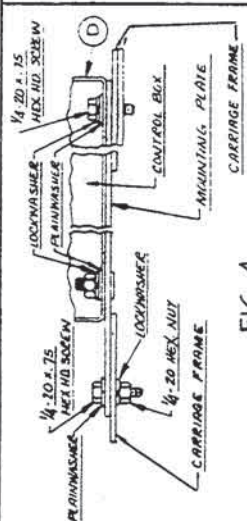

FIG. 4
- Install the control box (D) to the upper right front corner of the carriage using the hardware supplied. For LAF-3, -4, -5, install control box per Fig. 5. The LAF control box must be electrically isolated from the carriage frame. For NA-3 & NA-4, install control box mounting plate to the bottom of the control box and then mount the assembly to the carriage per Fig. 4.